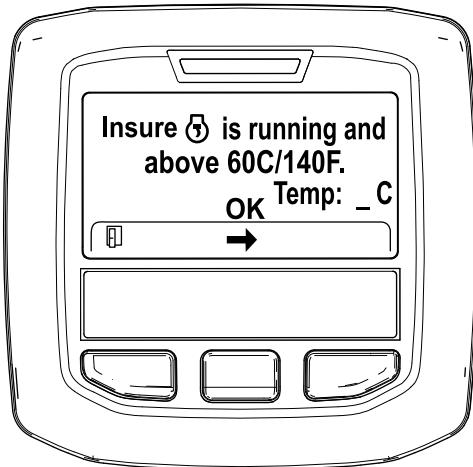

Figure 42
- If the coolant temperature is below 60°C (140°F) the “Insure is running and above 60C/140F” message displays. (Figure 42).